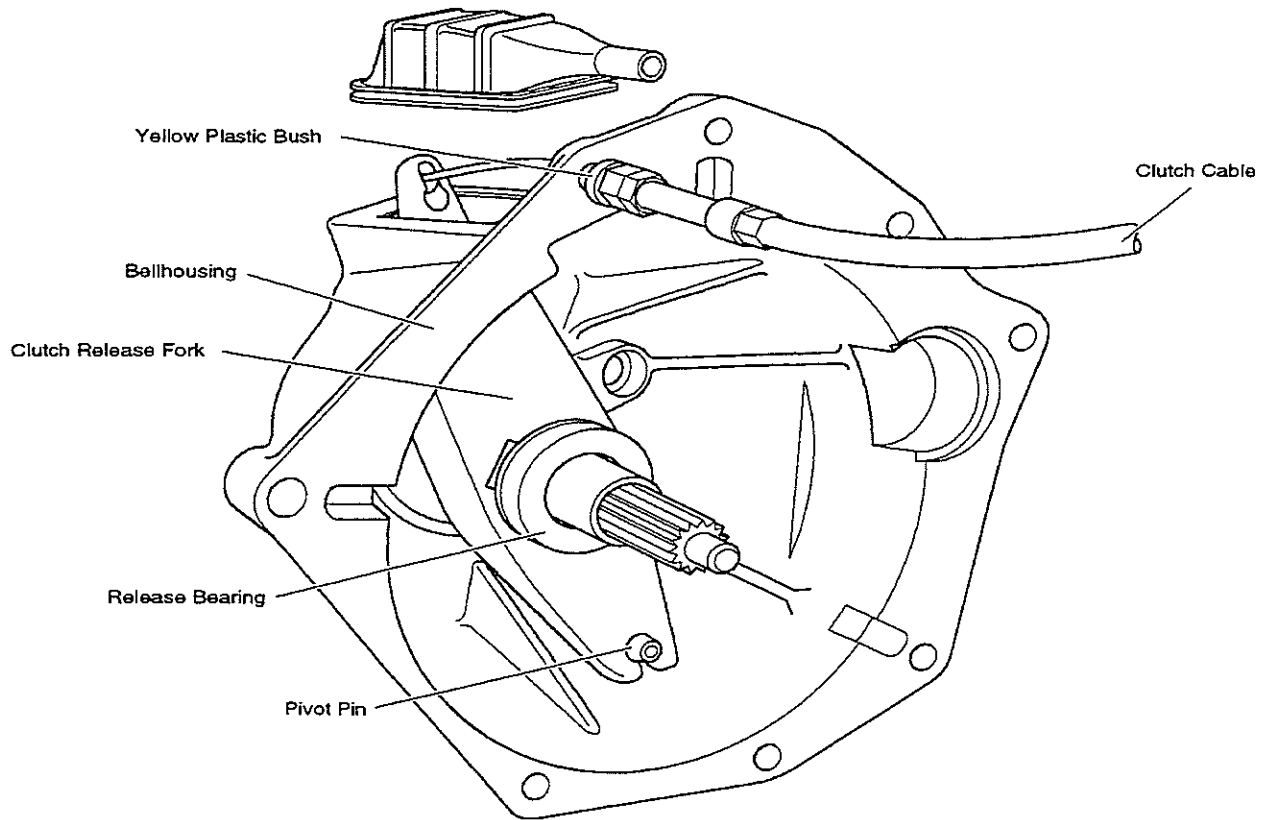

figure 7.1 5/6 Speed Bellhousing and Clutch Arm Assembly
c) Clip the clutch release bearing into place. Push the yellow plastic cable bush into the hole provided in the bellhousing for the clutch cable from the front. See figure 7.1.